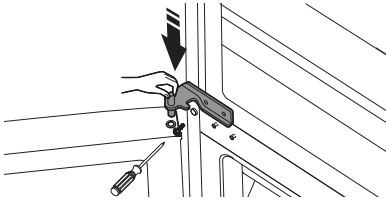

Figure 19
34. Insert hinge pin into top of freezer door and secure middle hinge to cabinet with two screws (see Figure 19).